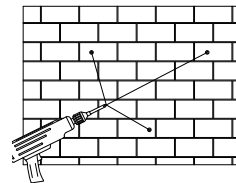

Figure 25
5. Drill three (3) holes in the wall that match the locations of the holes drilled in step 4 when mounted. (see Fig. 25)